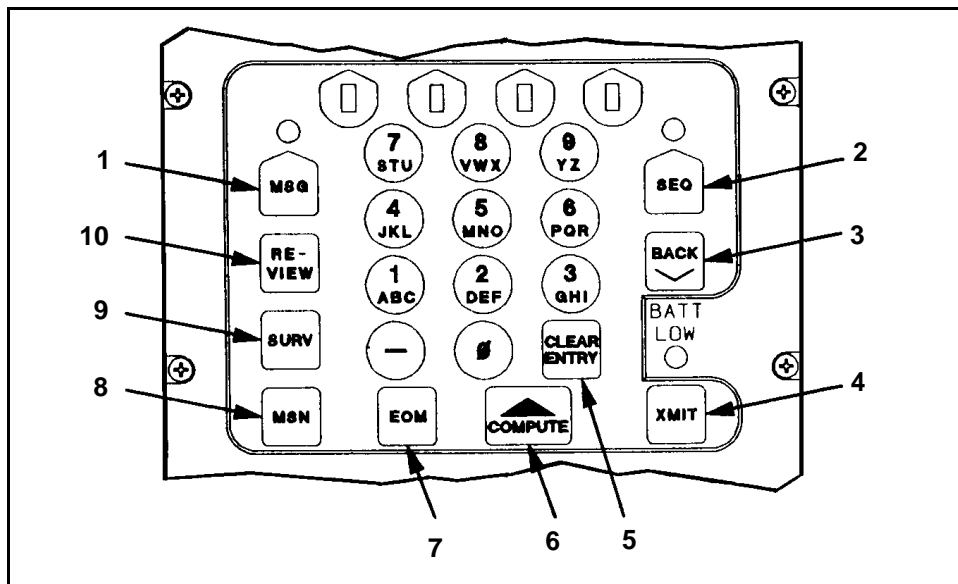

Figure 6-3. Action switches.
b. **Action Switches** (Figure 6-3). These switches include the following: